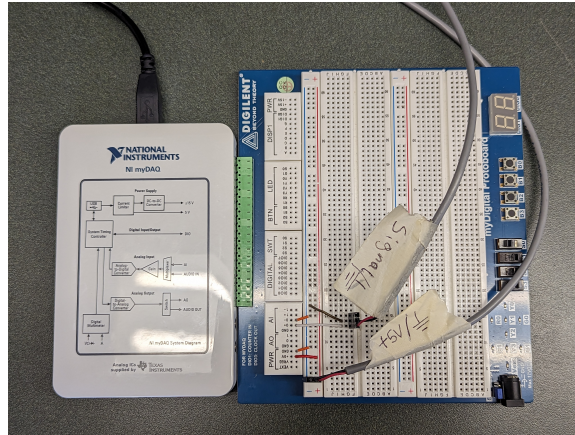

Figure 1: Connection to NI-DAQ system for experiment-2.
- Connect the potentiometer leads labeled "Power and Ground" to the 5 Volt reference signal and the reference ground from the power supply. See figure 1
- Connect the NI MyDAQ to the angular potentiometer leads labeled "Signal and Ground". The red wire should connect to AI0+ and the black wire to AI0- as shown in figure . See figure 1.